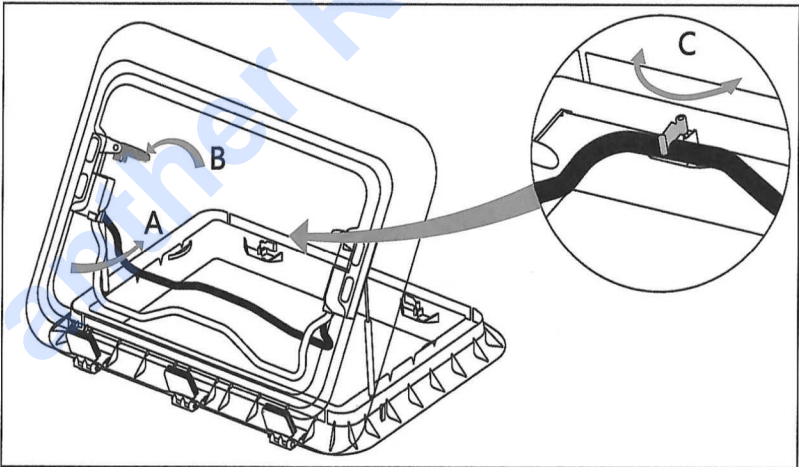

Figure 4
2. Pull the rod out (operation A) and push dome up (operation B) (see Figure 4).